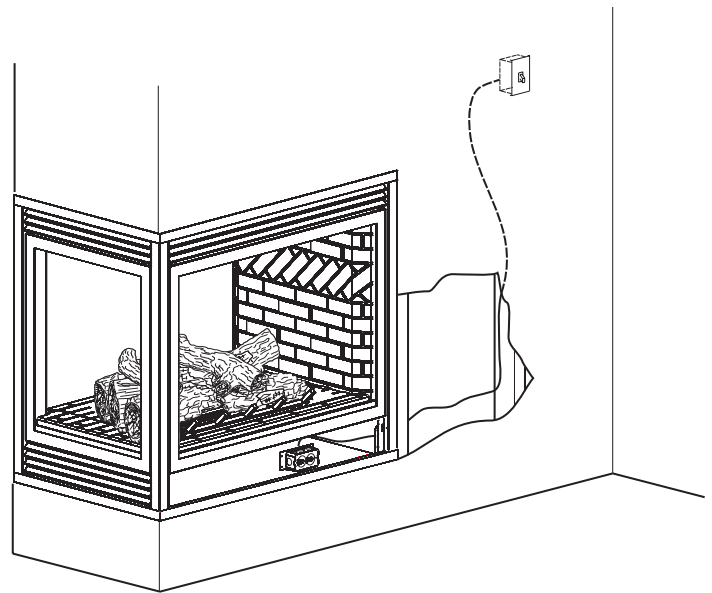

Figure 70
Note: Junction box is to be located in the lower compartment of the fireplace and must be pre-wired at time of fireplace installation for use with blower assembly. A standard ON/OFF wall switch or SCV-1 variable speed control kit should be installed to activate power to the Junction Box and provide power for the operation of the blower assembly. It is recommended that installation of the wiring be performed by a qualified electrician. **See Figure 70.**
- To complete the installation, plug the power cord into the junction box receptacle previously installed in the bottom of the fireplace. **See Figures 70 and 71.**